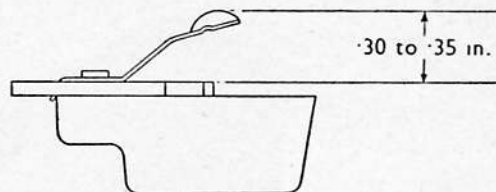

Fig. R.14. Rotor spring contact setting
2. Check the rotor contact spring for distortion. The set of the spring is important to ensure adequate contact pressure (Fig. R.14).